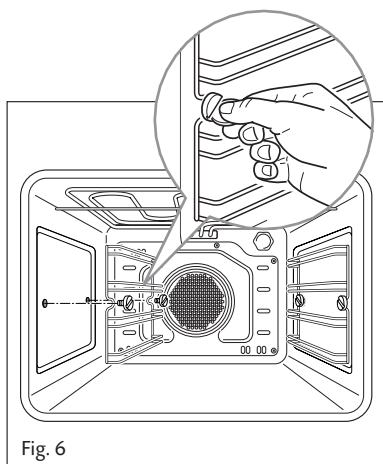

Fig. 6
- Assemble the wire racks to the oven walls using the 2 screws (Fig. 6).